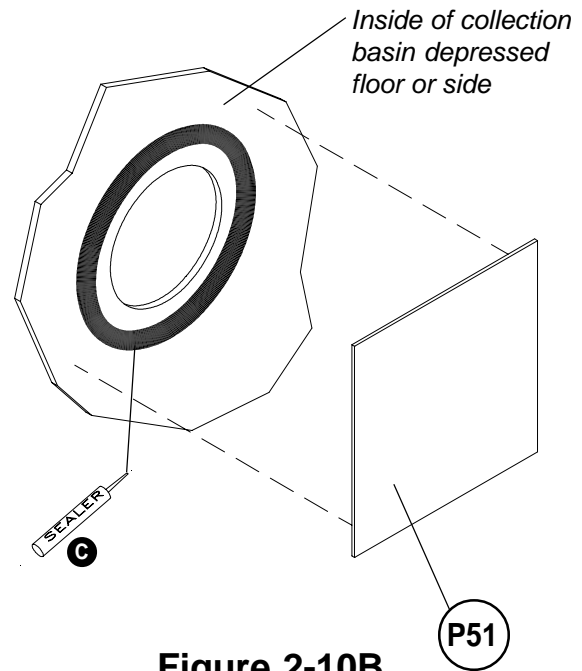

Figure 2-10B
*If the heater is unavailable and it is necessary to run the tower, temporary cover plates **P51** are provided for installation per *Figure 2-10B*.*